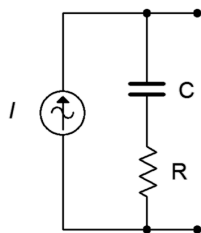

Figure 5.39
67. Design an equivalent voltage source for Figure 5.39. $I = 300\text{E}-3\angle 0^\circ$, $R = 4.3\text{ k}\Omega$ and $X_C = -j5\text{ k}\Omega$.
68. Design an equivalent voltage source for Figure 5.39 if $I = 100\text{E}-3\angle 120^\circ$, $R = 75\ \Omega$ and $L = 1\text{ mH}$. The source frequency is 10 kHz.